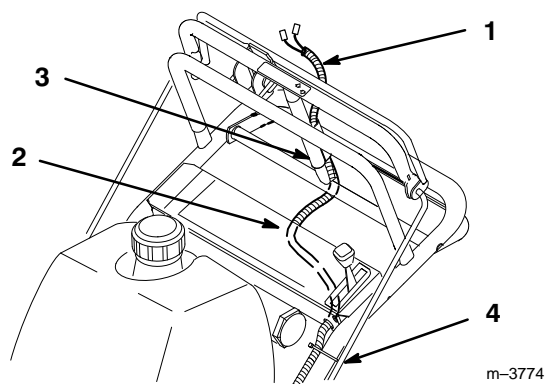

Figure 3
- Route wire harness inside of frame, along left handle and over throttle cable. Compress wire harness covering and press into lower and upper holes in rear of control panel (Fig. 3).
- Thread harness up through rear tube of traction handle (Fig. 3).
- Insert terminals into plastic plug until the clips snap into position (Fig. 3). If they do not snap turn around and try again.
- Push plug onto switch so latch interlock (Fig. 3).
- Secure wire harness and throttle cable to left handle, away from PTO lever, with wire tie (Fig. 3).